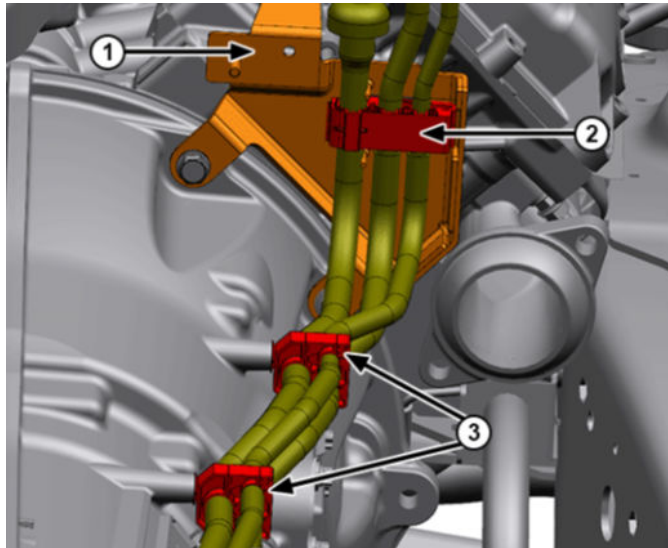

**Fig. 2**
5. Remove the wiring harness trough nuts on top of the transmission and position the wiring trough aside Fig. 2.
25. Position the wiring harness trough on top of the transmission and tighten the trough nuts securely Fig. 2.